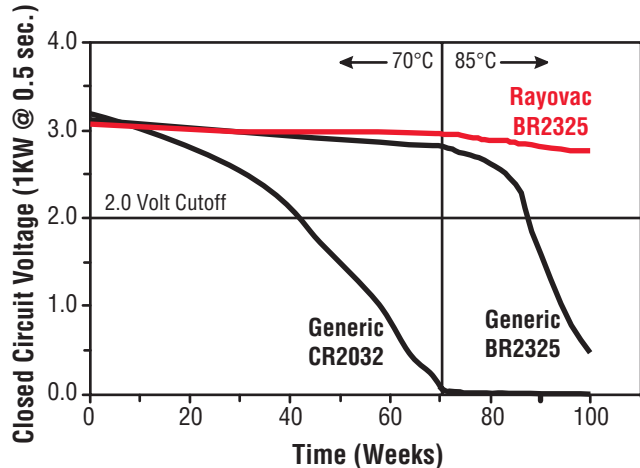

Figure 4
The advantage of Rayovac BR Lithium coin cell performance after high temperature storage is further illustrated in the figure on the right. Figure 4 shows how the BR2325 coin cell compares with other lithium carbon-monofluoride (BR) and lithium manganese dioxide (CR) cells when stored at high temperature. The data presents the results of weekly closed circuit voltage measurements on a 1KΩ load at 0.5 second duration after high temperature storage. The test was started at a storage temperature of 70°C and then later increased to 85°C to allow for the temperature limitations of the CR cell.